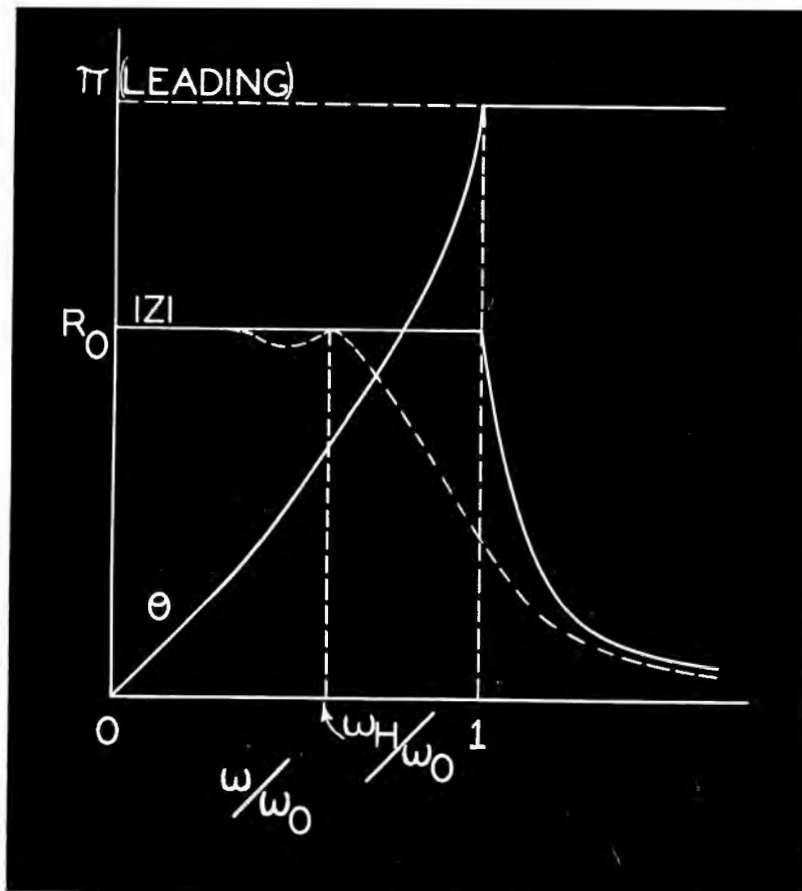

Figure 9
However, the impedance looking into an m -derived section terminated in R_0 is more nearly that of the true image impedance up to a point very close to the cut-off frequency than is that for its prototype, the constant k section, similarly terminated, particularly for $m = 0.6$. Hence, if we take a half section and terminate its T end with a series m -derived half section terminated itself in the normal image impedance R_0 , then the impedance looking into the π end of the constant k half section will be very closely that of a perfectly terminated section up to pretty nearly its cut-off frequency. If an equal amount of capacity be added to its π end (as per the method of Percival) then the impedance will be very close to that given in Figure 9. The circuit is shown both in synthesis and in final form in Figure 11, where the values for the various circuit parameters are also indicated. As stated in the Figure, the frequency f_H at which the response begins to fall off is about 95% of the cut-off frequency according to Wheeler³, and experimentally it has been found
quency although its phase angle increases with increase of the above ratio. The actual plot of Eq. (10) is given in Figure 9. It is at once evident that such a load impedance in the plate circuit of a video amplifier stage will have a perfectly flat gain up to the cut-off frequency ω_0 and then will drop off asymptotically to zero. This indicates a very desirable state of affairs, but it must not be overlooked that the phase shift is not strictly linear with frequency in the pass band and will thus offset to a certain extent its favorable amplitude characteristic.
amplitude response are shown by the broken line curve in Figure 9.